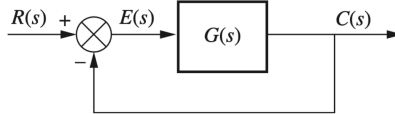

FIGURE P9.1
25. For the unity feedback system in Figure P9.1, with